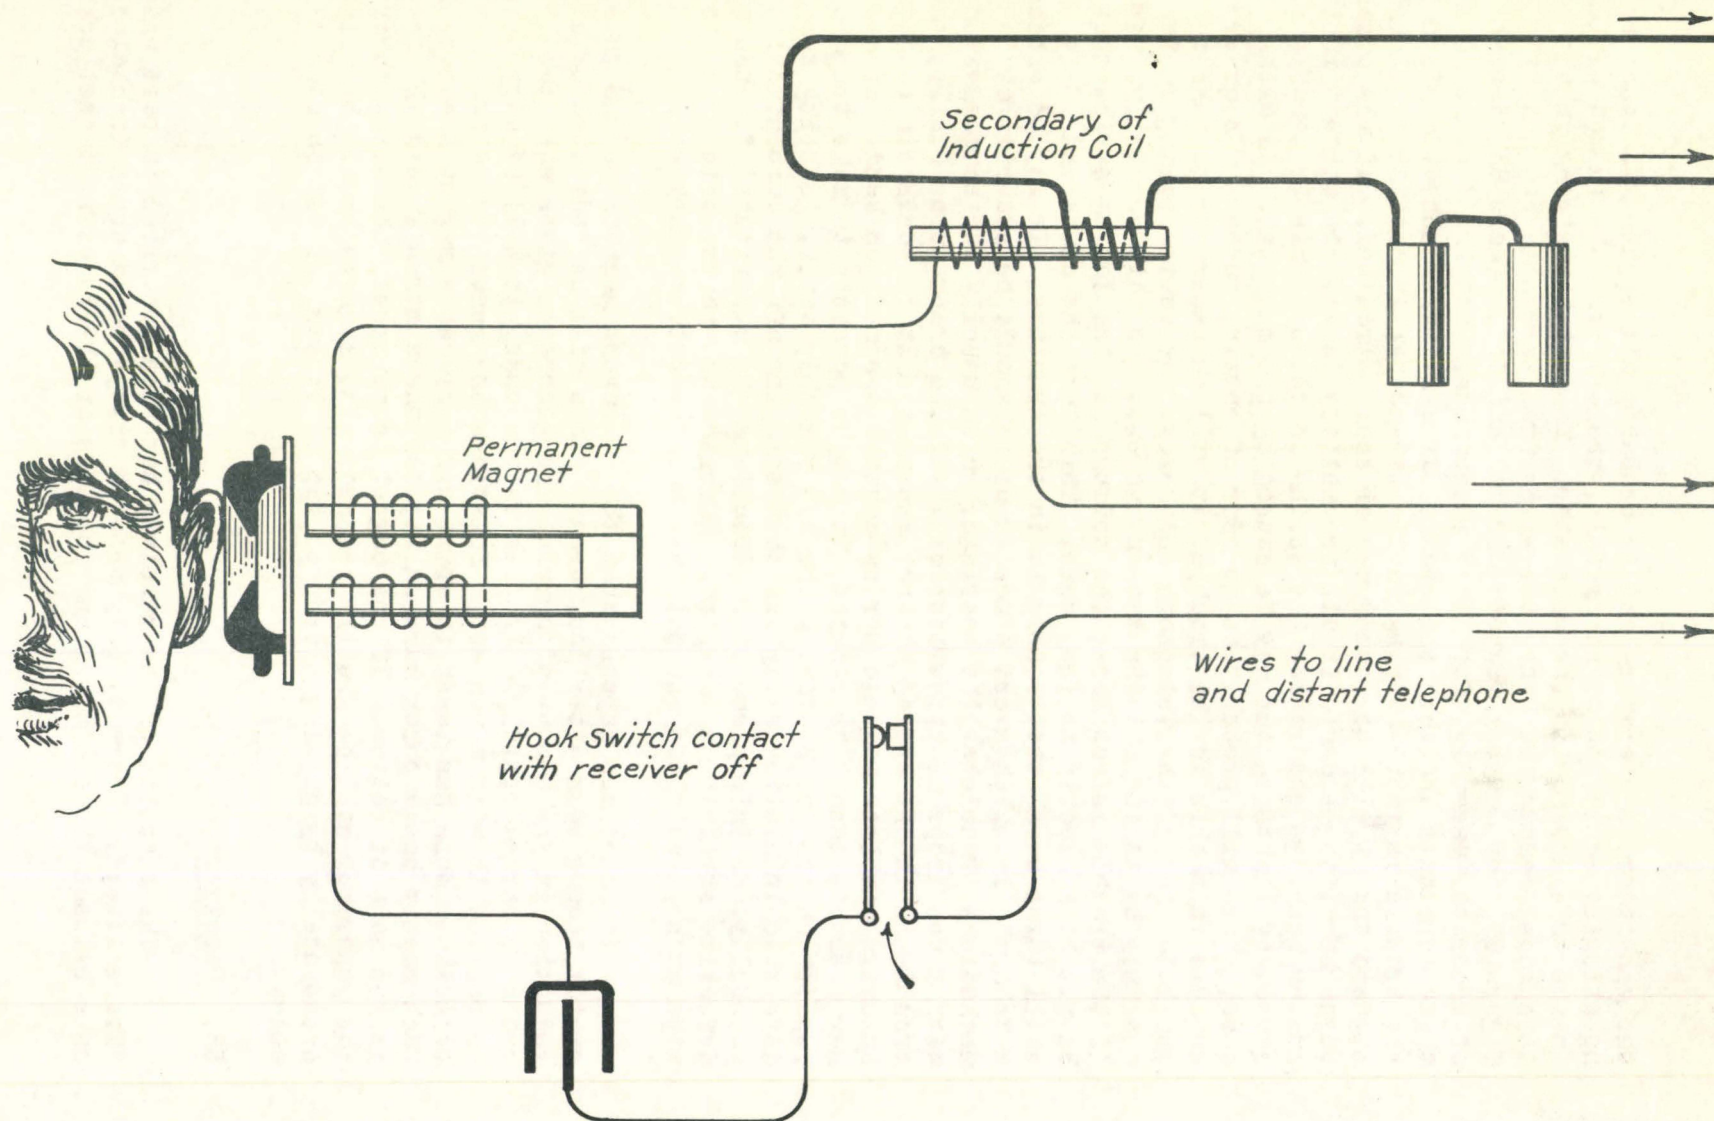
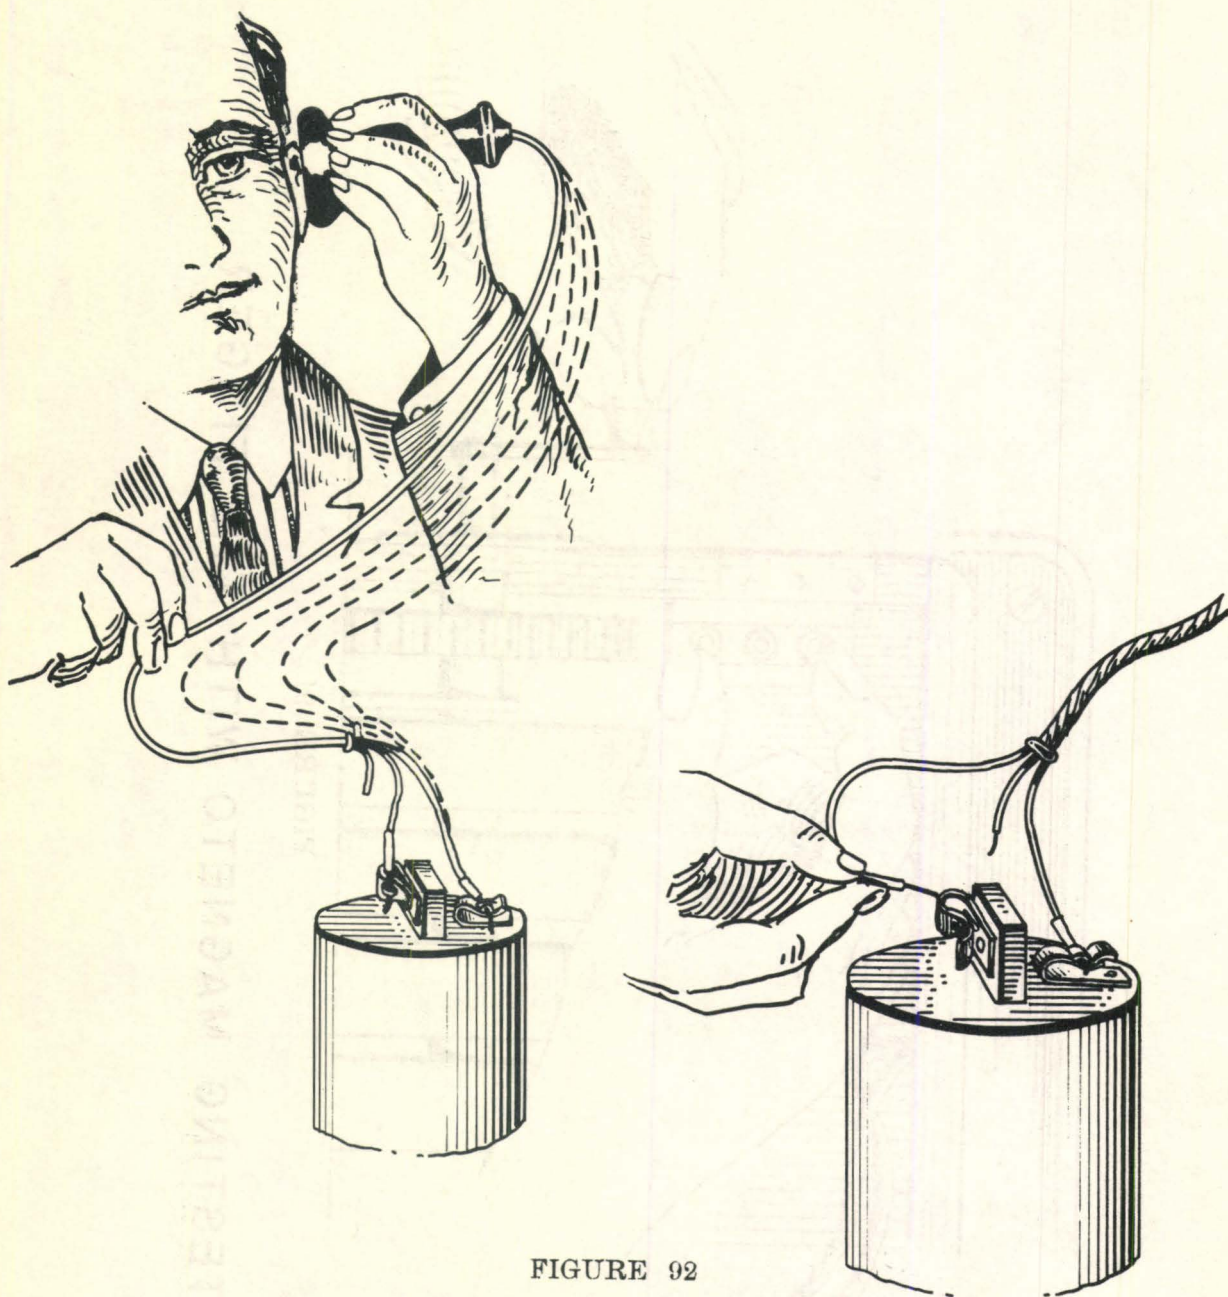

FIGURE 86
FIGURE 92
3. The receiving circuit, figure 86, sometimes referred to as the secondary or line circuit, includes the receiver, the hook switch upon which the receiver hangs, the condenser, and the secondary or fine winding in the induction coils.
See figure 86. It is important, therefore, that any dust or filings which may be inside the receiver be cleaned out, and if the diaphragm is dented, it should be either reversed or replaced with a new one. If the receiver has been dropped, the magnets may be jarred out of place. If the fine wire on the receiver magnets has been burned out by lightning, the receiver should be replaced with a new one. Convenient methods of testing a receiver or receiver cord are shown in figure 92.
The condenser is made of strips of tin foil separated by thin sheets of paraffined paper. It has a high resistance to the low frequency ringing current and practically no resistance to the high frequency talking current. In the event there is no condenser in the receiver circuit when the receiver of the telephone is taken off the hook, a circuit would be connected to the line by means of the hook switch, which would include only the receiver and the secondary winding of the induction coil. See figure 92. As their combined resistance is only about 150 ohms, which is very much lower than the resistance of the ringer coils, it would amount to a bad ground on the line and the other bells on the line would not ring. This is shown graphically in figure 94.
Test as follows: Methods of testing the receiver cord and the receiver are described under figure 92. If it is found that there is a broken wire in the receiver cord, two short pieces of small, insulated wire may be used until a new receiver cord can be secured.